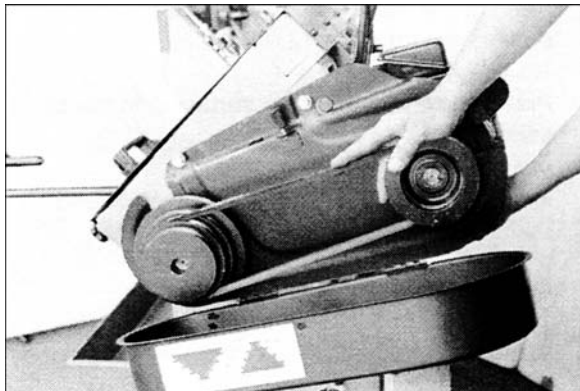

Figure 4
11. Tension the v-belt by pushing down on the motor and tightening the lock handle on the motor tilt plate. Correct tension is achieved when finger pressure between the two pulleys causes approximately a 1/2" deflection. See Figure 4.